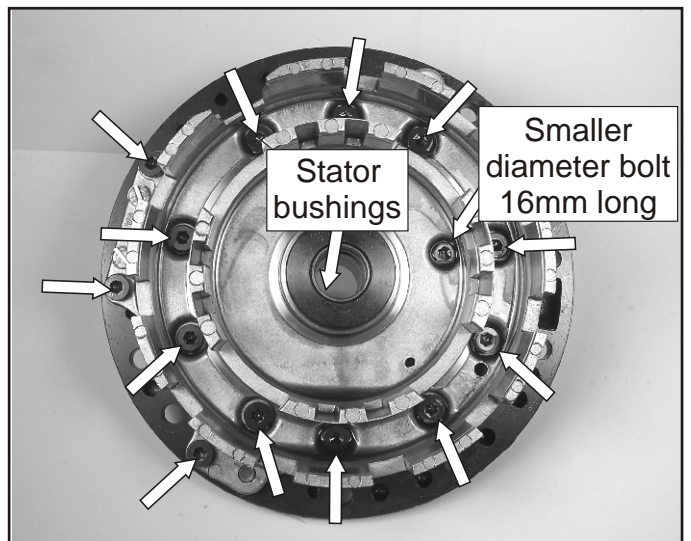

Figure 107
56. Using a 30 torx bit, remove the 14 bolts that retain the piston housing to the pump. **Note:** *The bolt length for the smaller diameter bolt is 16mm long. The remaining bolts are 13mm long.* Inspect stator bushings and replace as necessary. See Figure 107.